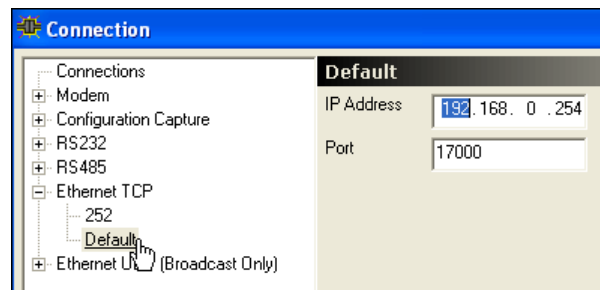

Figure 6.10: Connection List - shows Ethernet selected
1. Select the + next to Ethernet. If connecting for the first time, choose Default, and the parameters should be similar to those shown in Figure 6.10. Those listed are the default values installed at the factory. The IP Address is for the 1133A connected to the network.